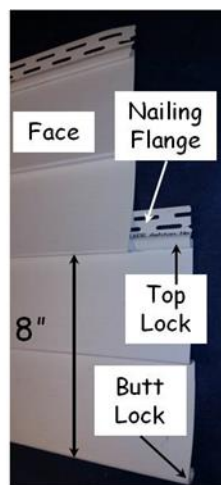

Figure 11-11. Siding Nomenclature.
3. Measure the distance from the top of the nail flange to the bottom of the top lock (see Figure 11-11). This is normally 1 1/4" to 1 3/8". Add this measurement to 8" and 40" to obtain the height of the lower and upper quality lines in Step 4, below.
4. As shown in Figure 11-11, the "Buttlock" of each course locks into the "Top Lock" of the course below.
5. On the 8s: The visible portion of each siding course is 8" high (see Figure 11-11). For each new course, snap the buttlock onto the top lock of the previous course along the entire piece. Nail the ends and middle, then measure up from the BOTTOM of the first course to the BOTTOM of the course being installed. Each measurement should be a multiple of 8 (e.g. 8", 16", 24", 32"). At each nail position, before nailing, check the measurement and adjust up or down to an even multiple of 8, and finish nailing the entire piece. Recheck as necessary and adjust the position of the nailing flange and re-nail, if required. Small adjustments can be made by tapping the nail head up or down as required. When installing the first and fifth courses, be sure the top of the siding (the nail flange) just touches the quality line previously snapped (see Section 11.1.6.3) on the wall.
4. Measure the distance from the top of the nail flange to the bottom of the top lock (See Fig. 11-11). This is normally 1¼" to 1⅜". Add this measurement to 40" to obtain the height of the quality line. For each side of the shed at each corner, make marks at the height calculated, measuring from the bottom of the starter strip. Tack a nail into each of those marks and snap a Quality Control chalk line around the shed.